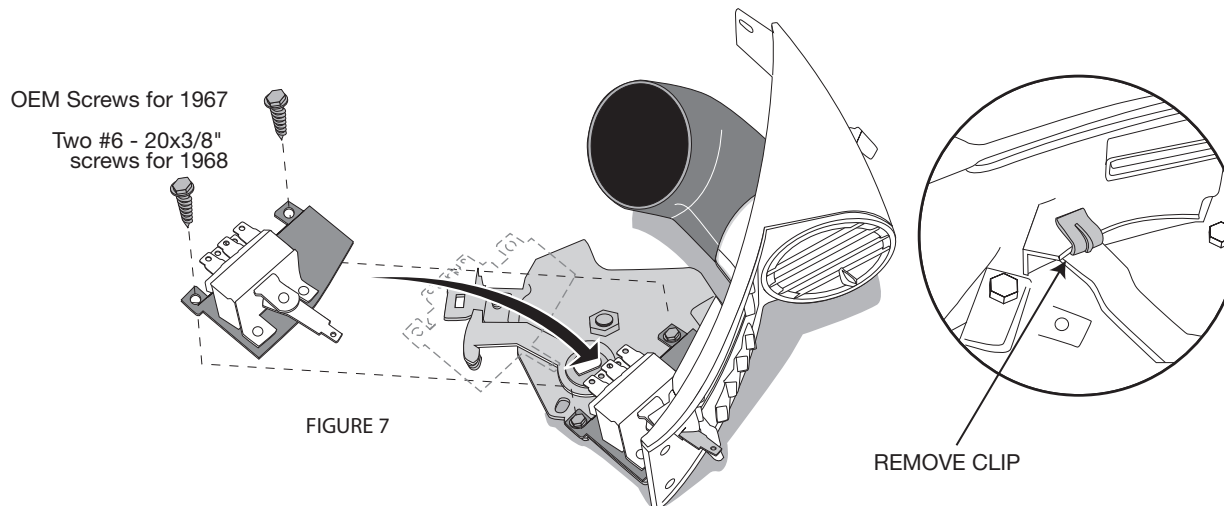

FIGURE 7
- 3) Cut off and discard the small retaining clip on the lever arm (see inset, figure 7, 1968 control head only).
1967 CONTROL HEAD: Attach the new blower switch with bracket to the top part of the back of the face plate (see figure 7), utilizing the two OEM screws.